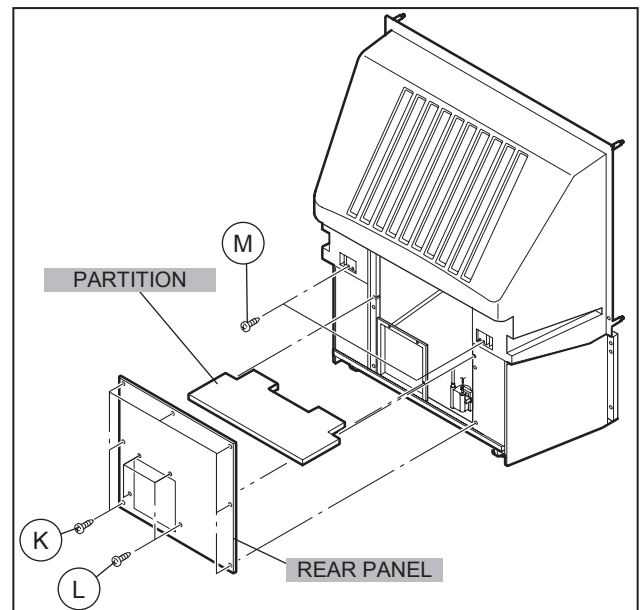

Fig.5
- (1) Remove 2 screws [ M ]. (Fig.5)
- (2) Remove 2 screws [ N ] from front side.
- (3) Slightly pull for backside to disengage of the REAR COVER from hooks.
- (4) Take out the REAR COVER.